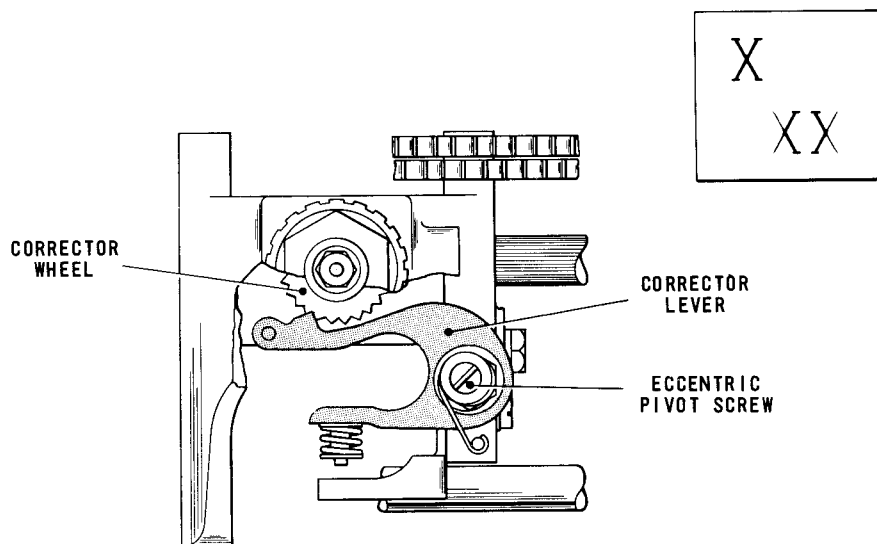

Fig. 4.49 TYPEHEAD CORRECTOR MECHANISM
- (b) Pull the typehead back so that the corrector lever, Fig. 4.49, is out of engagement and, turning the typehead lightly to the left to take up the backlash, press the typehead casting towards the platen so that the letter is printed again on the lower line.
(f) Check that the image printed appears as shown in the inset to Fig. 4.49. This inset shows the image obtained when the backlash is equal in both directions.
57.4 If this is not so, slacken the screw securing the eccentric pivot of the corrector lever, Fig. 4.49, and turn the pivot until the letter 'X' is correctly positioned. Holding the pivot in this position with a spanner, tighten its securing screw.
58.1 Depress the letter 'X' key or, if the machine has no keyboard, set up the letter 'X' combination (MSMMM) on the pins. Lift the translator clutch abutment and turn the machine by hand until the typehead moves forward to print. Press the typehead casting forward so that the typehead moves towards the platen. Using slip gauge TA1337, check that when the corrector lever, Fig. 4.49, is fully engaged with the corrector wheel, the typehead is within .100 - .125 in. of the platen. Check for this condition with the typehead at both ends of its traverse.